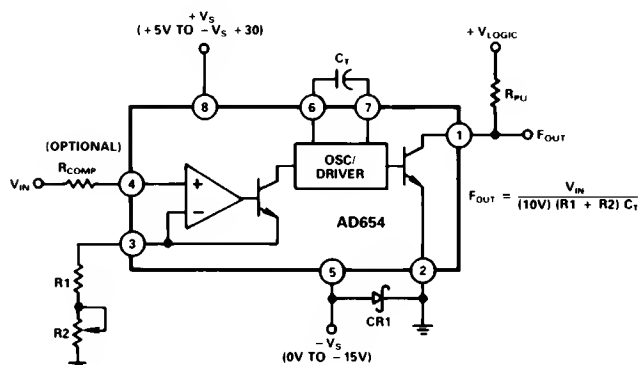

Figure 1. Standard V-F Connection for Positive Input Voltages
The AD654's block diagram appears in Figure 1. A versatile operational amplifier serves as the input stage; its purpose is to convert and scale the input voltage signal to a drive current in the NPN follower. Optimum performance is achieved when, at the full-scale input voltage, a 1 mA drive current is delivered to the current-to-frequency converter (an astable multivibrator). The drive current provides both the bias levels and the charging current to the externally connected timing capacitor. This "adaptive" bias scheme allows the oscillator to provide low non-linearity over the entire current input range of 100 nA to 2 mA. The square wave oscillator output goes to the output driver which provides a floating base drive to the NPN power transistor. This floating drive allows the logic interface to be referenced to a level other than  $-V_S$ .
In the connection scheme of Figure 1, the input amplifier presents a very high (250 M $\Omega$ ) impedance to the input voltage, which is converted into the proper drive current by the scaling resistors at Pin 3. Resistors R1 and R2 are selected to provide a 1 mA full-scale current with enough trim range to accommodate the AD654's 10% FS error and the components' tolerances. Full-scale currents other than 1 mA can be chosen, but linearity will be reduced; 2 mA is the maximum allowable drive. The AD654's positive input voltage range spans from  $-V_S$  (ground in sink supply operation) to four volts below the positive supply. Power supply rejection degrades as the input exceeds  $(+V_S - 3.75 \text{ V})$  and at  $(+V_S - 3.5 \text{ V})$  the output frequency goes to zero.
As indicated by the scaling relationship in Figure 1, a 0.01  $\mu\text{F}$  timing capacitor will give a 10 kHz full-scale frequency, and 0.001  $\mu\text{F}$  will give 100 kHz with a 1 mA drive current. Good V/F linearity requires the use of a capacitor with low dielectric absorption (DA), while the most stable operation over temperature calls
for a component having a small tempco. Polystyrene, polypropylene, or Teflon\* capacitors are preferred for tempco and dielectric absorption; other types will degrade linearity. The capacitor should be wired very close to the AD654. In Figure 1, Schottky diode CR1 (MBD101) prevents logic common from dropping more than 500 mV below  $-V_S$ . This diode is not required if  $-V_S$  is equal to logic common.
The AD654 was designed to be used with a minimum of additional hardware. However, the successful application of a precision IC involves a good understanding of possible pitfalls and the use of suitable precautions. Thus  $+V_{IN}$  and  $R_T$  pins should not be driven more than 300 mV below  $-V_S$ . Likewise, Logic Common should not drop more than 500 mV below  $-V_S$ . This would cause internal junctions to conduct, possibly damaging the IC. In addition to the diode shown in Figures 1 and 2 protecting Logic Common, a second Schottky diode (MBD101) can protect the AD654's inputs from "below  $-V_S$ " inputs as